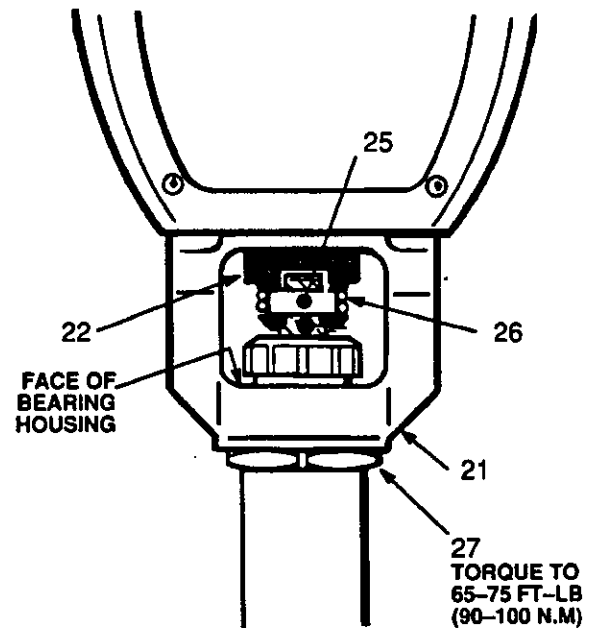

Fig 23-1
**NOTE:** Refer to Fig 23-1 for Step 14.
14. Screw the displacement pump about 3/4 of the way into the bearing housing (21). Hold the pin (25) up the pin hole in the connecting rod assembly (22) and continue screwing in the pump until the pin slides easily into the hole. Back off the pump until the top threads of the pump cylinder are flush with the face of the bearing housing and the outlet nipple (92) faces back. Push the retaining spring (26) into the groove all the way around the connecting rod. Tighten the locknut (27) to 65 to 75 ft-lb (90 to 100 N.m), using a 2-1/4 in. open end wrench and a light hammer.